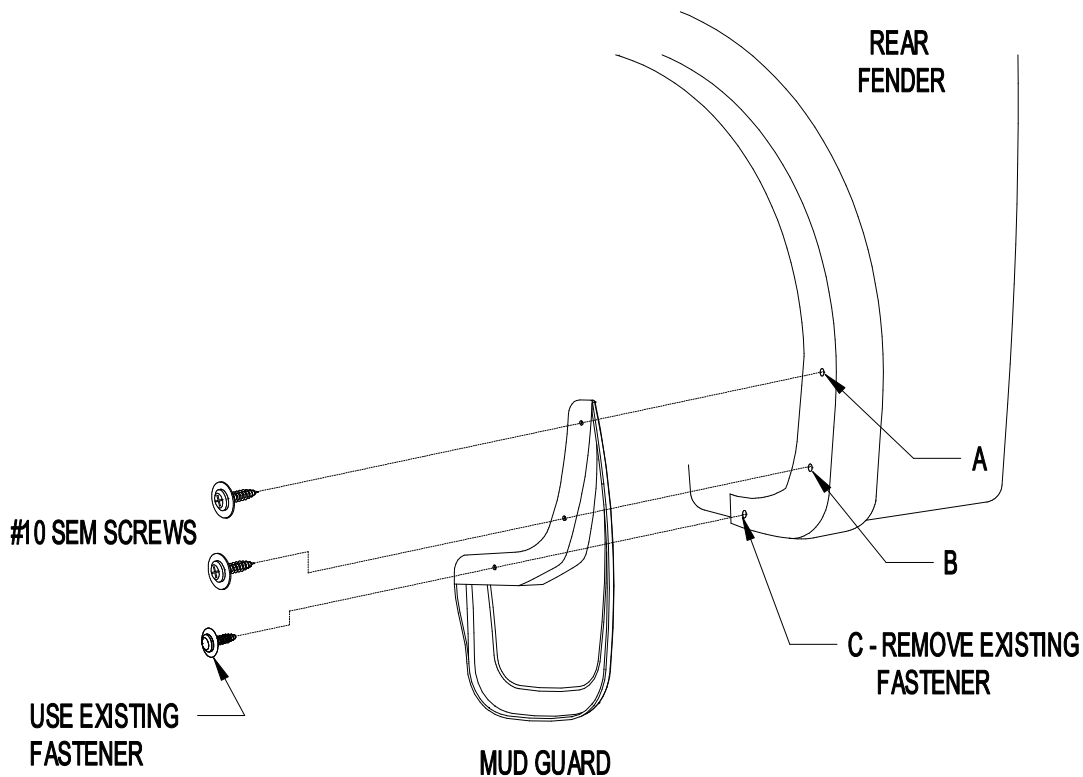

Figure 1
3. Install mud guard to rear fender with existing fastener at location C (Figure 1). Check fit and parallel and adjust accordingly before tightening.